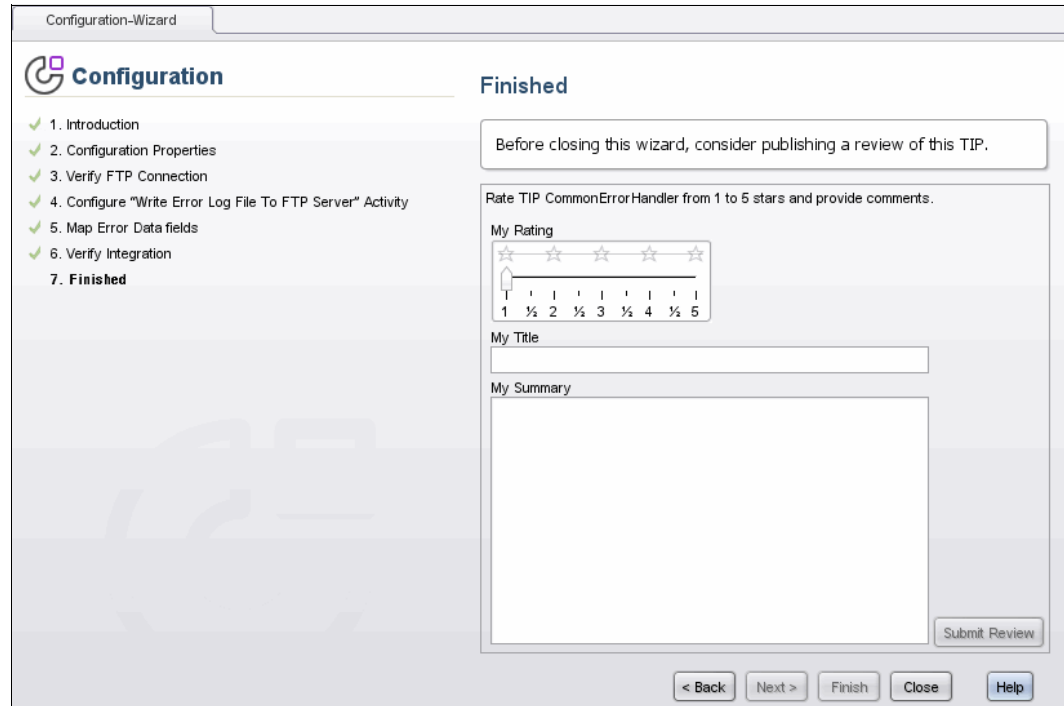

Figure 7-31 Configuration Wizard final panel
8. The final configuration panel looks like Figure 7-31. Click **Close**.